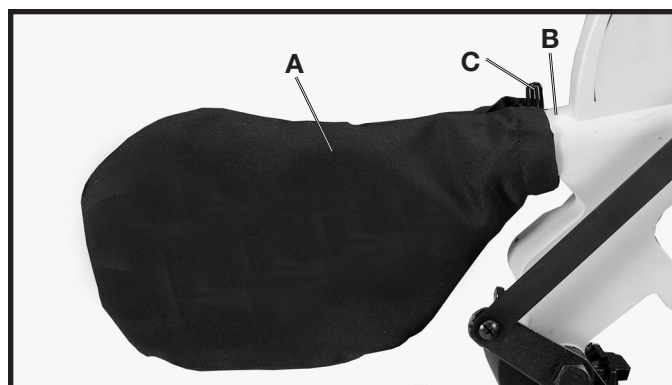

Fig. 8
Attach dust bag (A) Fig. 8 to the dust spout (B) making sure the wire ring (C) is engaged with the ridge in the spout.